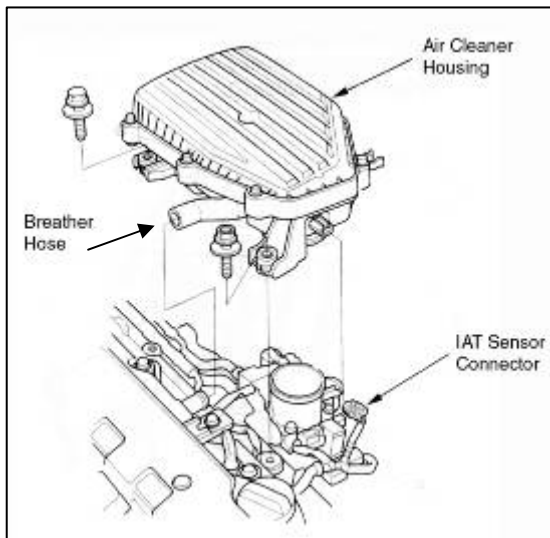

Fig. 5
- Remove the IAT sensor connector, and then remove the breather hose. Loosen the hose clamp on the throttle body. Remove the air cleaner housing by loosening the two bolts securing it. **(Fig. 5)**